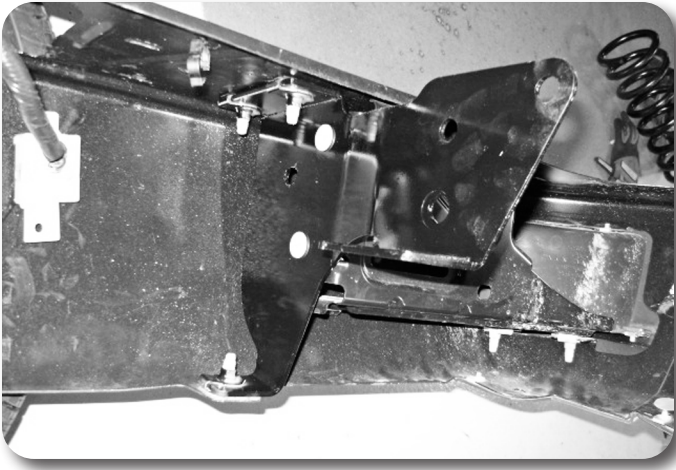

Figure 29
15. Replace the brackets as they were removed with the Zone bumper brackets using the factory hardware. Figure 29.